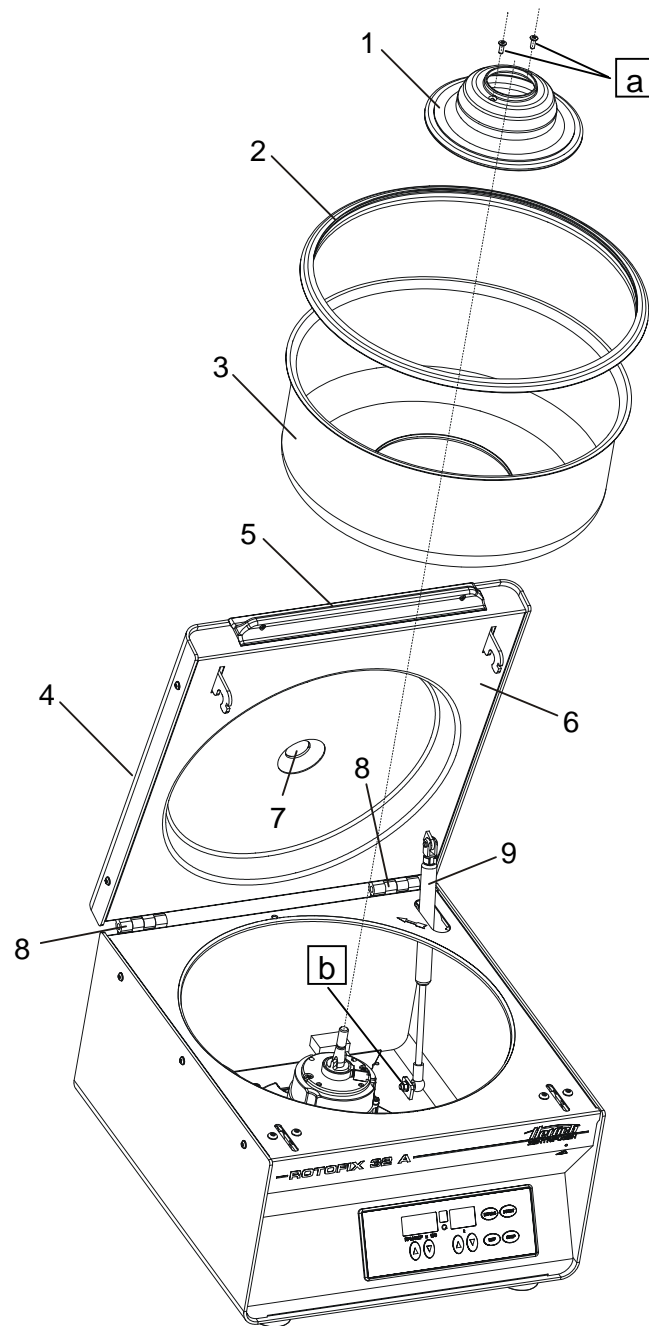

Fig. 1
- Undo both screws (Fig. 1, a) on the motor cover and remove the motor cover (Fig. 1, item 1).
- Take out the centrifuge chamber (Fig. 1, item 3) and unplug the protective conductor from the centrifuge chamber.
- Unscrew the nut (Fig. 1, b) at the ball and socket joint of the pneumatic spring and remove the pneumatic spring.